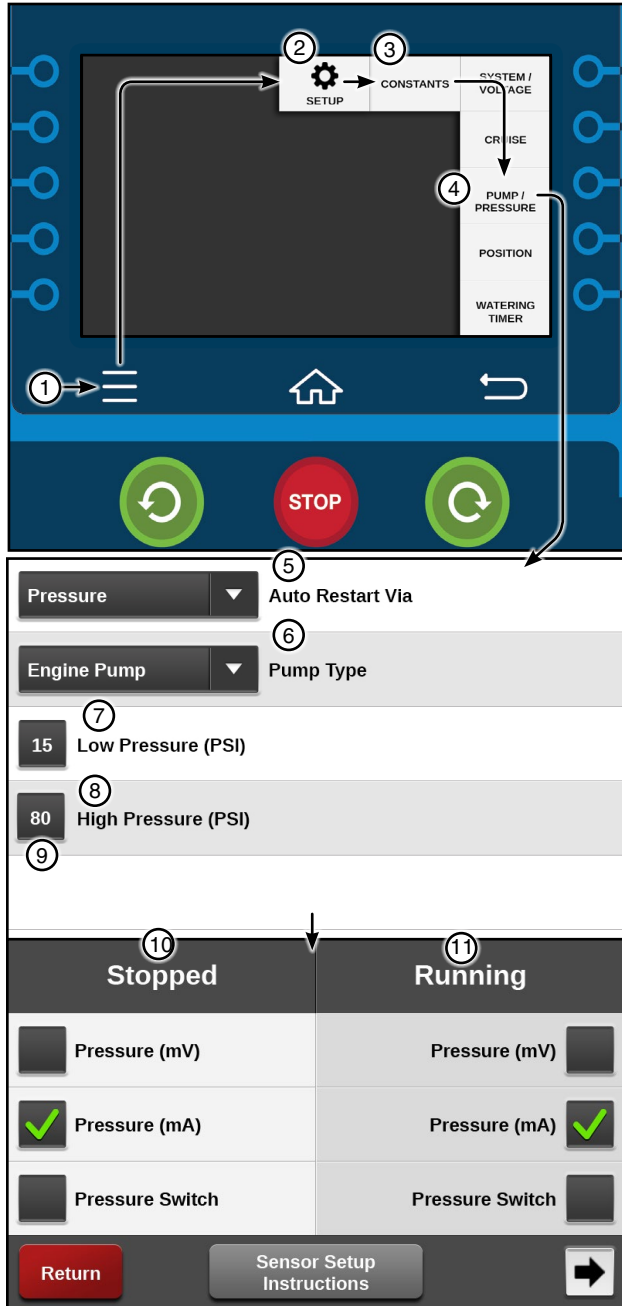

Figure 38-1 1. Menu 7. Low Pressure
7. Go to the Pump screen to verify settings and associate pressure sensor(s) with the machine status. See Figure 38-1.